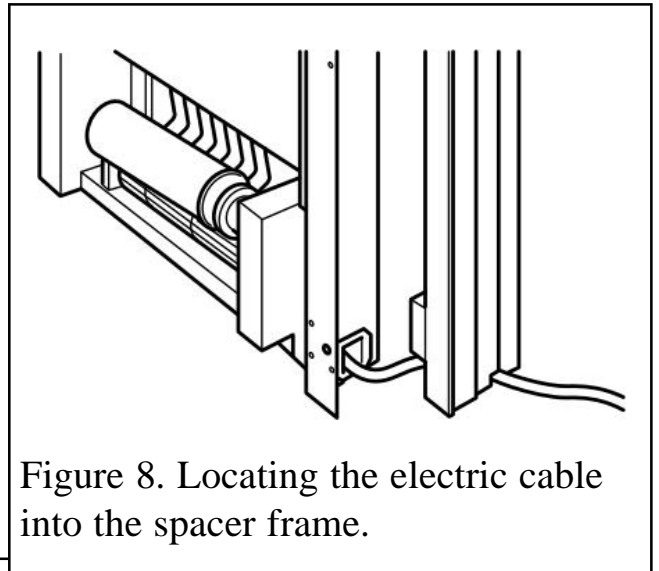

Figure 8. Locating the electric cable into the spacer frame.
6. Place the spacer frame so that the holes in the brackets are in line with the wallplugs in the fixing surface. If the electric cable is to go to the left or right of the heater then stand the heater in front of the spacer frame. Pass the electrical cable underneath the spacer frame and locate it into the cutout in the centre of the spacer frame (See figure 8).